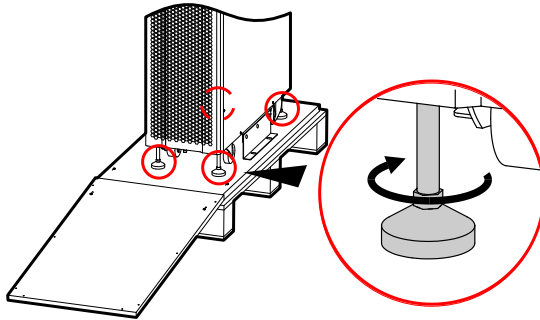

Figure3-5 Screw up the supporting feet brackets
Step 7 Heighten the supporting feet, as shown in Figure3-5.